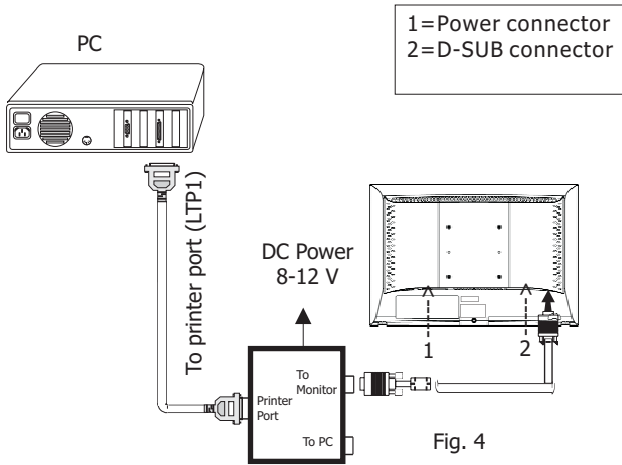

Fig. 4
Step 2: Connecting printer cable and D-Sub cable of monitor as Fig. 4